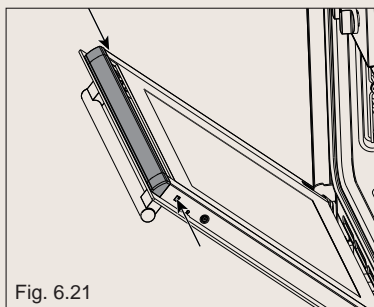

Fig. 6.21
- * Gently pull out the inner pane of glass (arrow 2 in fig. 6.21).